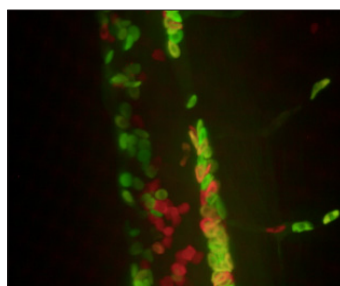

Figure 7: Individual red blood cells expressing GFP and RFP are visible. 63x magnification, 1.15 water immersion lens.
**Acknowledgements:** Figures 1-6: Samples supplied by CCRI, Vienna, Figure 7: Sample supplied by Kamil Jastrzebski, IIMCB, Warsaw